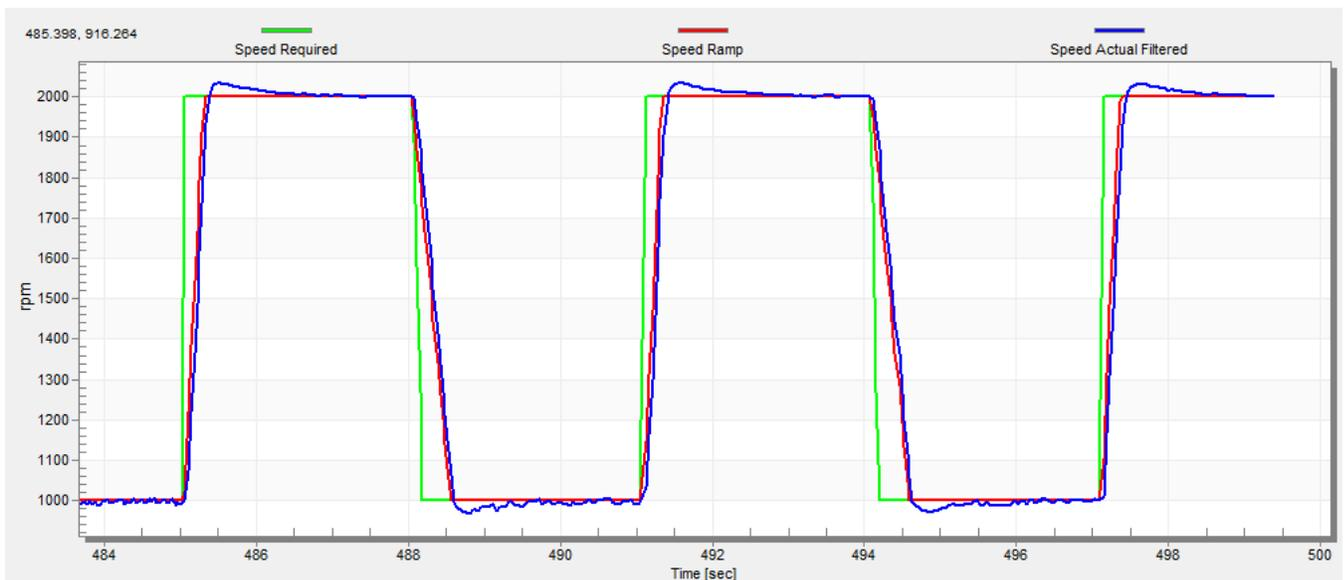

Figure 50. Speed Controller Response—speed loop response with a small overshoot
- The speed loop response has a small overshoot and the “Speed Actual Filtered” settling time is sufficient. Such response can be considered optimal (see Figure 50).